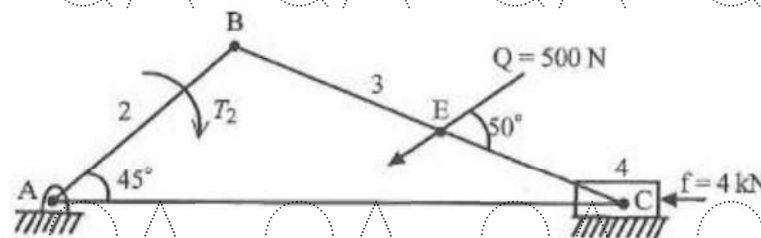

Figure 1
3. Determine the couple T acting on the link 2 to maintain the static equilibrium of the slider crank mechanism subjected to forces as shown in Figure 1. The link lengths are AB=300mm, BC=455mm, BE=175mm. [10]